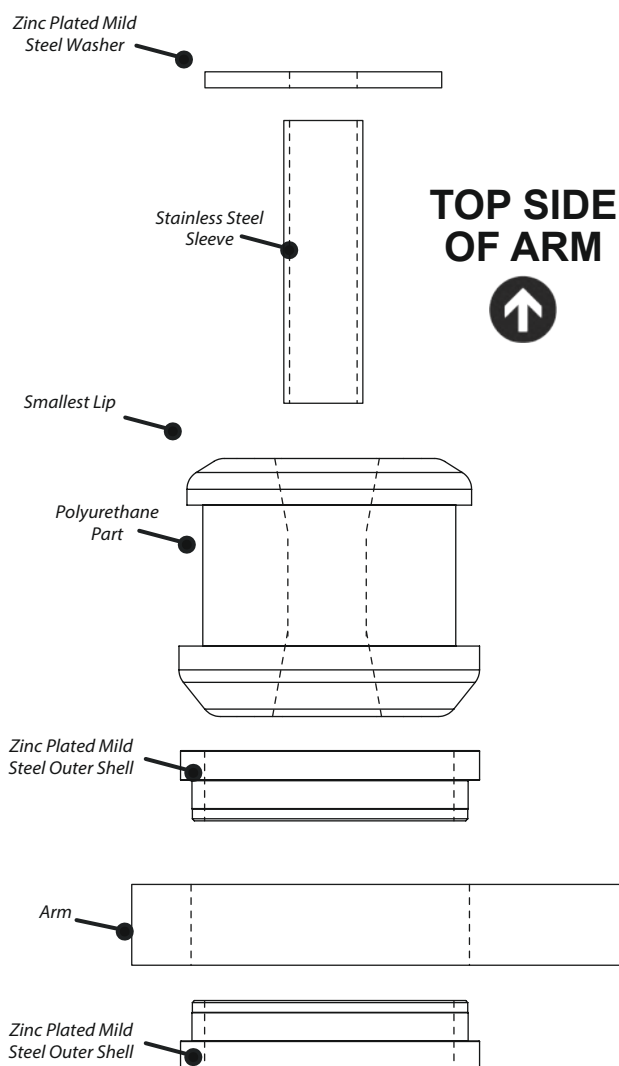

Figure 1
3. Press in the two zinc plated mild steel outer shells into the bore of the arm on either side so the top lip sits on top of the arm, as shown in Figure 1.
4. Push the polyurethane bush into the tapered bore of the outer shells with the smallest lip of the bush sitting on the top side of the arm, as shown in Figure 1.